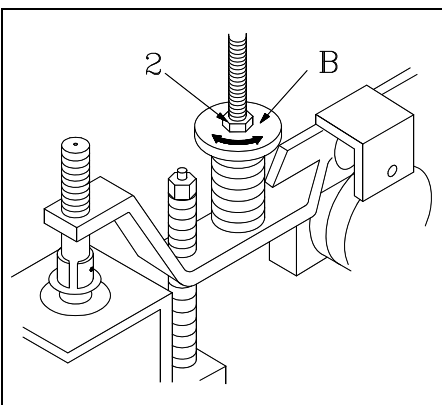

Fig. 4.5
If strap thickness is 0.5 mm below or thicker over 0.8 mm. then need to adjust spring retainer (B) (refer to Fig.4.5) by turning clockwise or ant-clockwise to increase strap pressing force.
Attention: Adjustment B(Fig.4.5) is fixed by a lock nut (2).